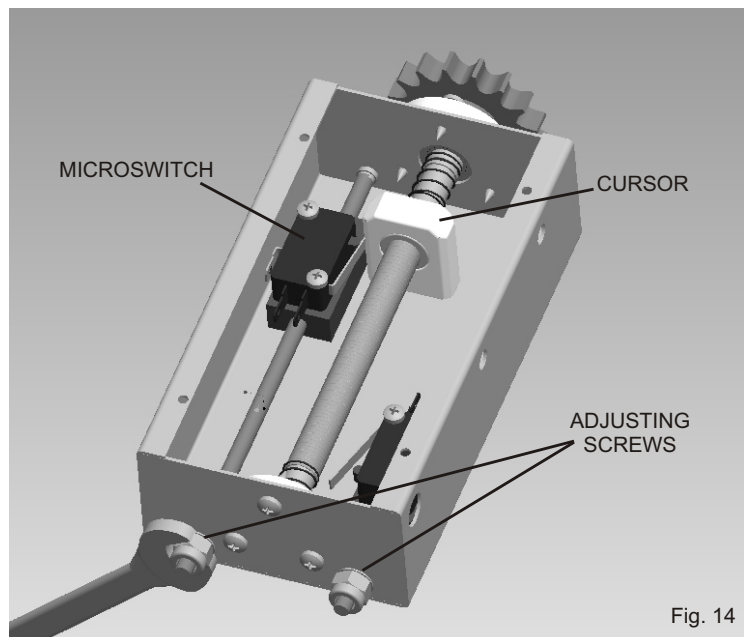

Fig. 14
- act on the adjusting screw so that the microswitch can activate the contact with the cursor (Fig. 14)